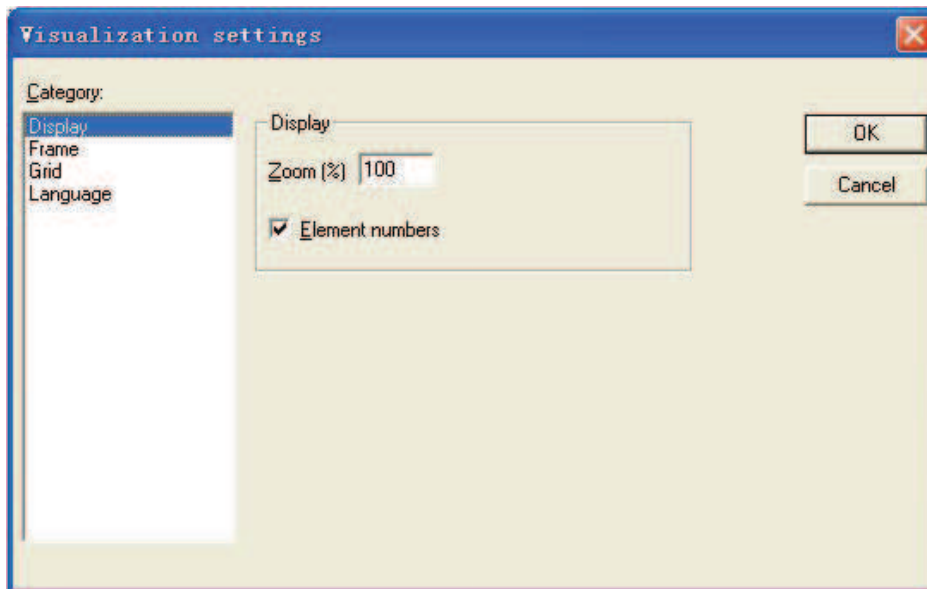

Figure 11-3-4 Visualization Settings
The dialog box of visualization settings is shown in figure 11-3-4.
- Display: Enter a zoom factor into the field **Zoom (%)** to increase or decrease the size of the visualization display. The **Element numbers** is optional, shown in figure 11-3-4.